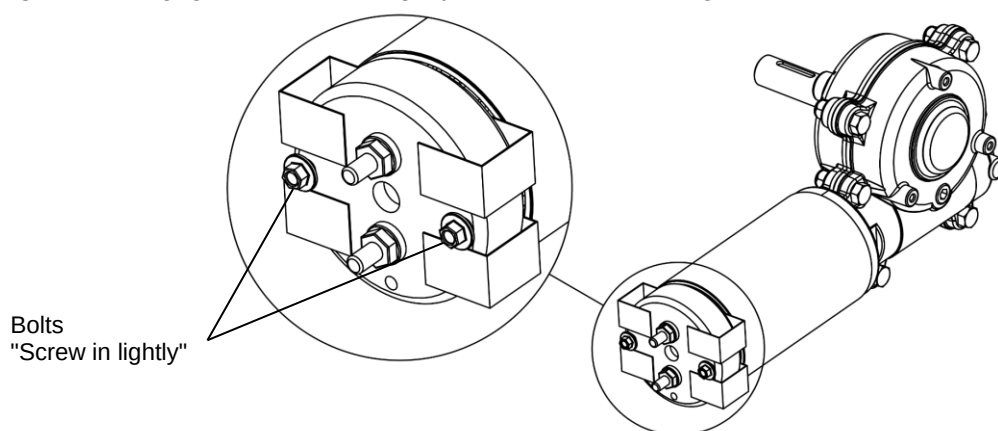

Figure 10
8. **Figure 10.** Engage the bolts and lightly screw them into the gearbox.